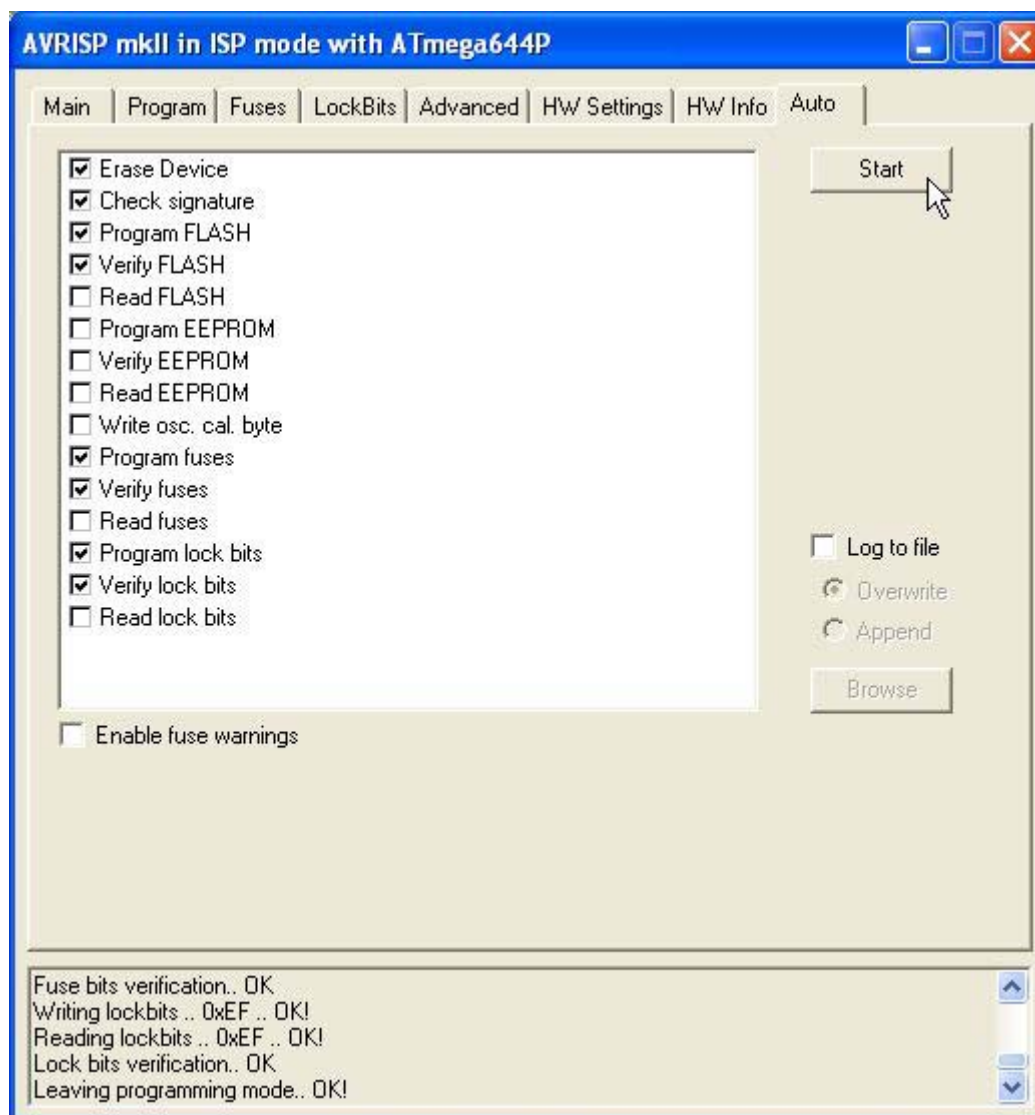

FIGURE D9: ISP PROGRAMMING WITH AVRISP MK II
Start the programming by keeping the Start button and check that in the lower part of the window all the operations keep going regularly, in other words that they are supported by the OK prompt, as it is shown in the figure D9. During the programming the status LED of the **AVRISP mk II** turns into red and at the end, if any error occurred, it turns into green again.
- n) In the window Auto please select the operation to do for the ISP programming with **JTAGICE mk II**, in other words delete the device, program and verify the protection bits. At this point it is very important to remember that by proceeding with the ISP programming, all the previous content of the FLASH will be lost for good and even the **AVR Bootloader grifo(r)**, supplied with the Mini Module. Start the programming by keeping the Start button and check that in the lower part of the window all the operations keep going regularly, in other words that they are supported by the OK prompt, as it is shown in the figure D9. During the programming the status LED of the **JTAGICE mk II** turns into green and at the end, if any error occurred, it turn off.